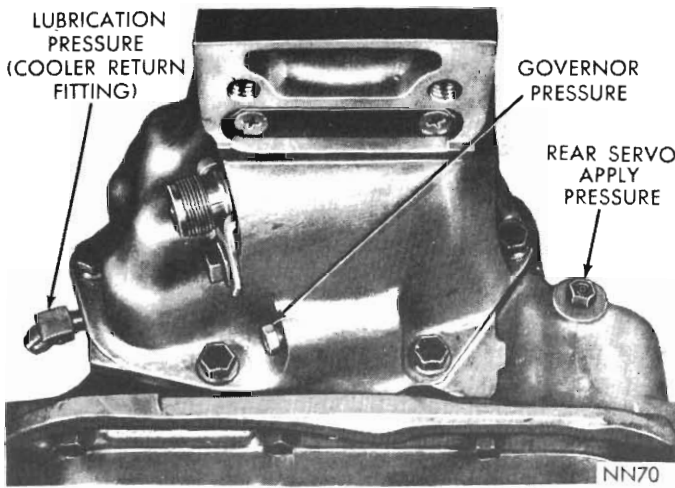

Fig. 27 - Pressure test locations (rear end of case)
(1) Install a "tee" fitting between cooler return line fitting and fitting hole in transmission case at rear left side of the transmission (Fig. 27). Connect a 0-100 p.s.i. pressure gauge, Tool E21C65 to the "tee" fitting.
(2) At 1,000 engine r.p.m., with throttle closed and transmission in direct, lubrication pressure should be 5-15 p.s.i. Lubrication pressure will be approximately doubled as the throttle is opened to maximum line pressure.
(1) Connect a 0-300 p.s.i. pressure gauge, Tool E21C65A to apply pressure take-off point at rear servo (Fig. 27).
(2) With transmission control in R (reverse) position and engine speed set at 1,600 r.p.m., reverse servo apply pressure should be 230 to 300 p.s.i.
(1) Connect a 0-100 p.s.i. pressure gauge, Tool E21C65 to governor pressure take-off point, located at lower left side of extension near the mounting flange (Fig. 27).
(2) Governor pressures should fall within the limits given in the "Governor Pressure Chart".